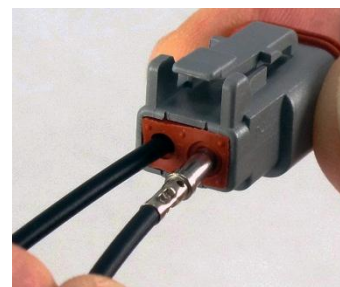

Figure 2
1.1. Removing Socket Contacts (Refer to Figure 2)